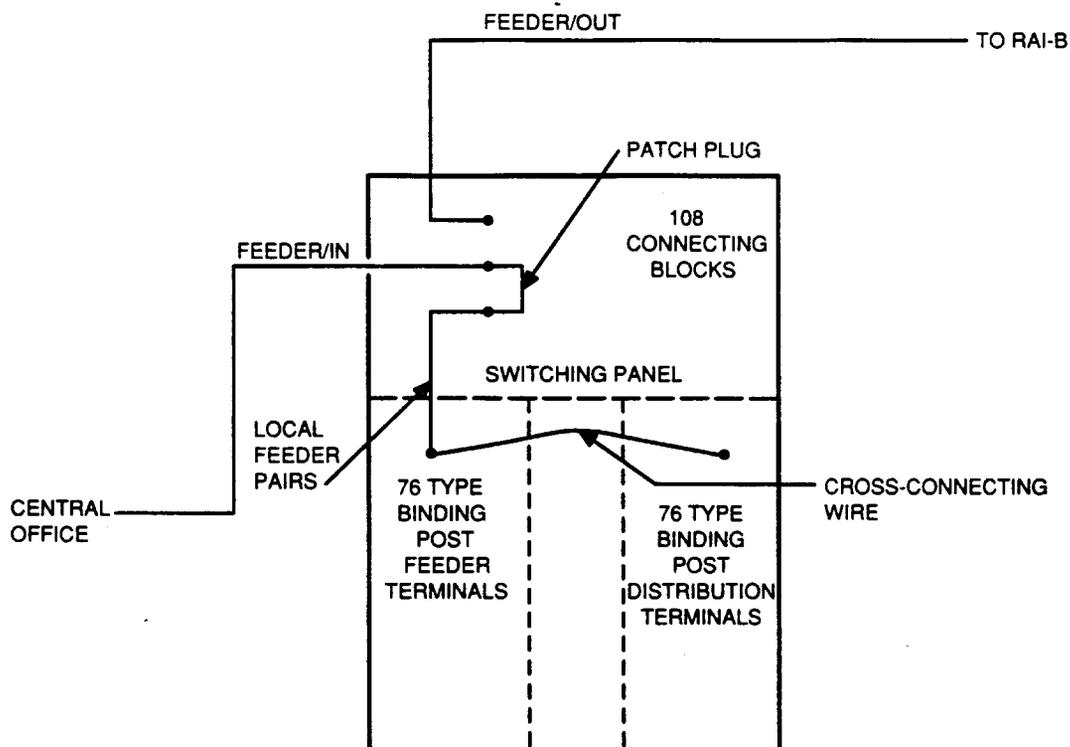

Figure 22. Feeder-In Pairs Connected to Local Feeder Pairs by Means of Patch Plug (RAI-A)
- (c) The 76-type binding post terminal fields (feeder and distribution) are used for connecting cross-connecting wire as outlined in Part 4 and as shown in Figure 22.